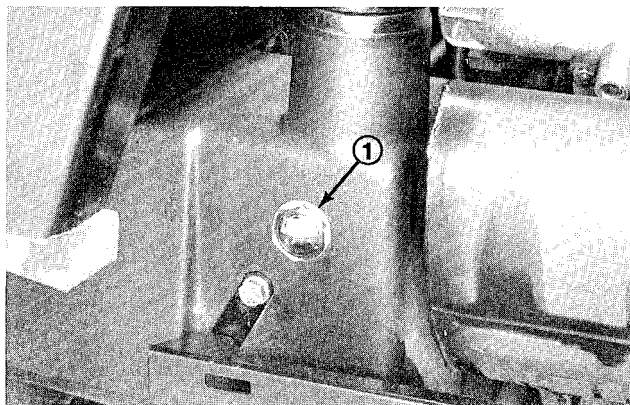

Figure 44
5. With wing decks raised, center deck down and oil warm, look into sight gauge (Fig. 44). If hydraulic oil is not visible, add enough oil to raise level to middle (maximum) of sight gauge. To prevent over filling, do not fill if oil is cold. **DO NOT OVER FILL.**